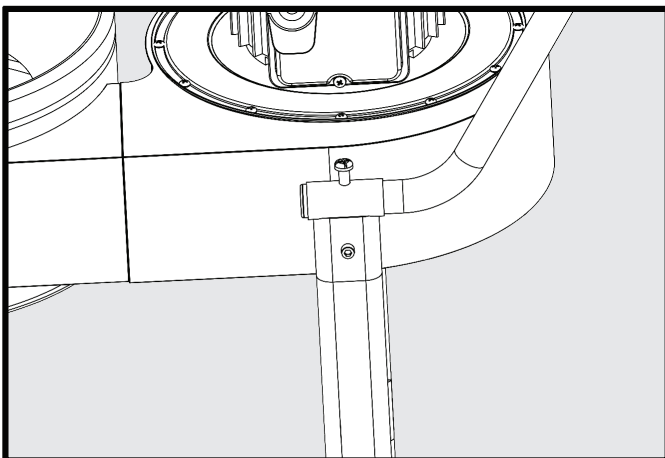

FIGURE 11
- Screw in M8 Phillips head self tapping screw (21) on both sides (Fig 11).